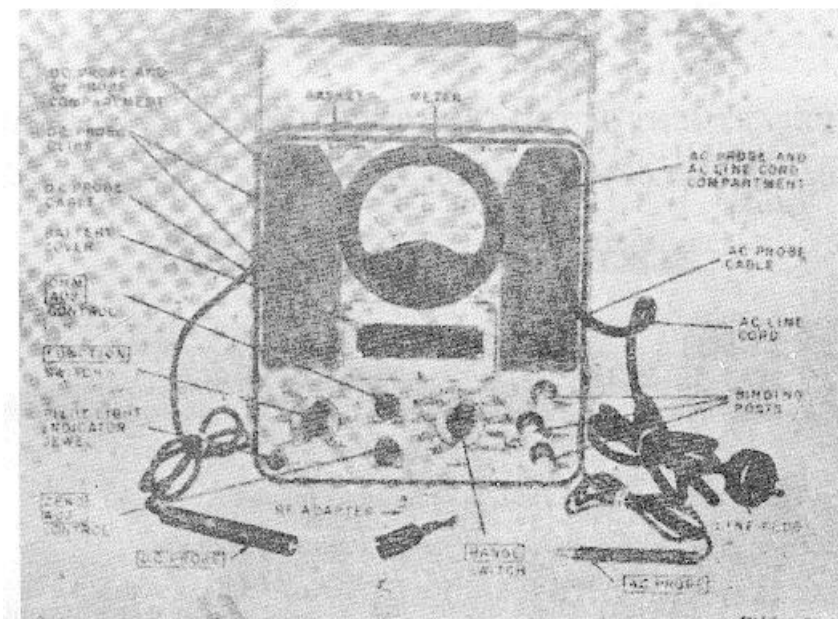

Figure 3. (Superseded) Electronic Multimeter TS-505/U, front panel.
(1) Remove the battery cover (fig. 3) from the front panel of the multimeter.
(2) Remove the batteries from the battery compartment.
(3) Clean the battery compartment (par. 30c(3.1)) if necessary and replace the battery cover.
(1.1) (Added) To measure RF voltages, connect the tip jacket of a test lead to the COMMON binding post (fig. 3). Connect the RF adapter to the end of the DC PROBE. Connect the other end of the RF adapter and the COMMON test lead
a. Reading RF Voltages. Read the RF voltages on the dc voltage scale of the meter (fig. 3). The most accurate readings are obtained when the meter pointer is within the upper one-third portion of the dc voltage scale.
- (1) Perform the starting operations outlined in paragraph 16.
- (2) Turn the FUNCTION switch to the +DC position. (After the multimeter has warmed up, the meter pointer will probably be near, but not at, zero scale reading.)
- (3) Turn the RANGE switch to the 2V-RX1 position.
- (4) Hold the DC PROBE and the COMMON probe tips together, and turn the ZERO ADJ. control until the meter pointer indicates exactly 0 volt.
v. Meter. The meter (M1) is a 0- to 1-milliampere movement (infinite damping factor) with the appropriate measurement scales (fig. 3) printed on the face. Change "V2" to "V2B (1/2-6AL5)" in the following places in the manual: